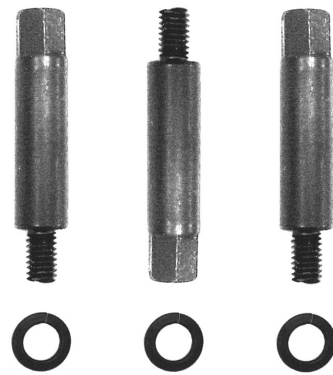

Figure 6-2
2. Line up two holes in the stand top (E) with holes in the bed assembly by viewing through the access door in rear side of the stand.
3. Attach stand to bed assembly by using two 3/8" lock bolts and lock washers (Figure 6-2). Hand-tighten only at this time.